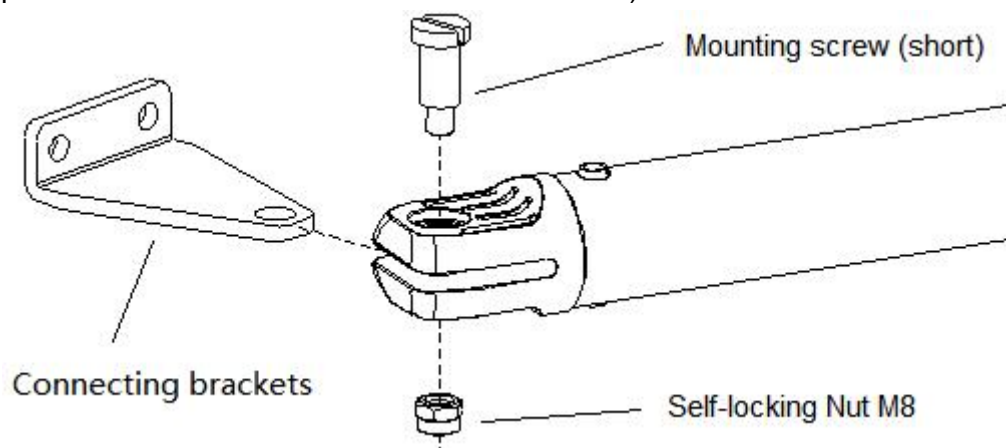

Figure 8
E) As shown in figure 8 below, connect wall bracket with wall according to marked position. Then, connect main machine with wall bracket by screw and nut. (Please use spirit level to make sure the installation levelness.)